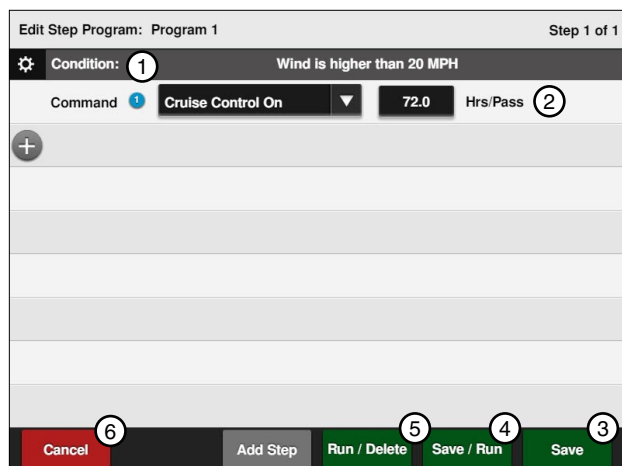

Figure 118-2 1. Cruise Control On
4. Enter the command to be executed when wind speed is higher than 20 mph. Refer to Figure 118-2.
5. Finish the program by selecting one of the following. Refer to Figure 118-2.